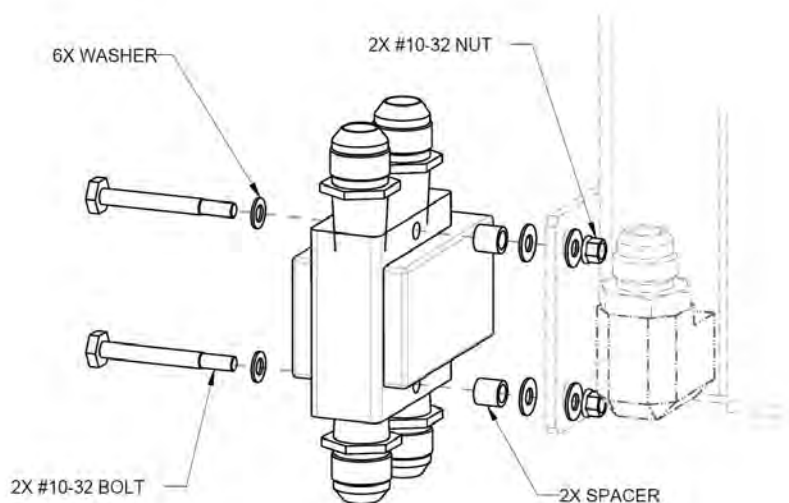

FIGURE 16-53
5. Install THERMOSTAT onto OIL COOLER as shown in Figure 16-53.